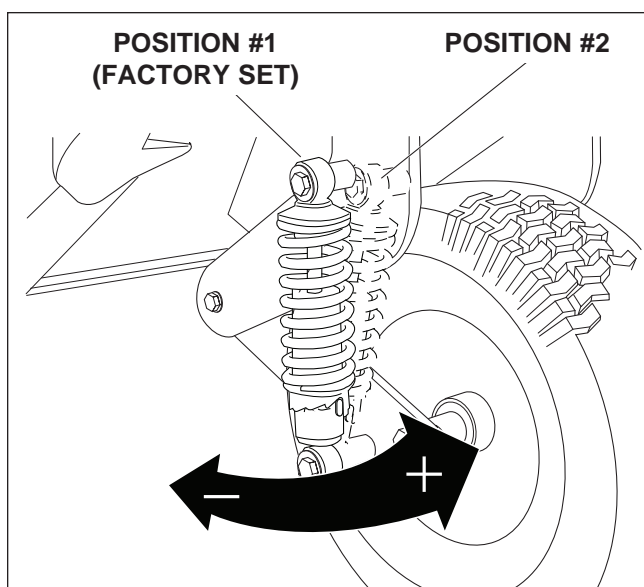

Figure 33. Rear Suspension Adjustments
2. See Figure 33. Using the supplied spanner wrench (p/n 5022853), insert the tip of the wrench into the notch in the pre-load adjuster. While holding the wrench in place with one hand, turn COUNTER-CLOCKWISE to increase the pre-load, turn CLOCKWISE to decrease the pre-load.
6. Remove the upper shock mounting hardware and pivot the shock to the position #2 (see Figure 33).